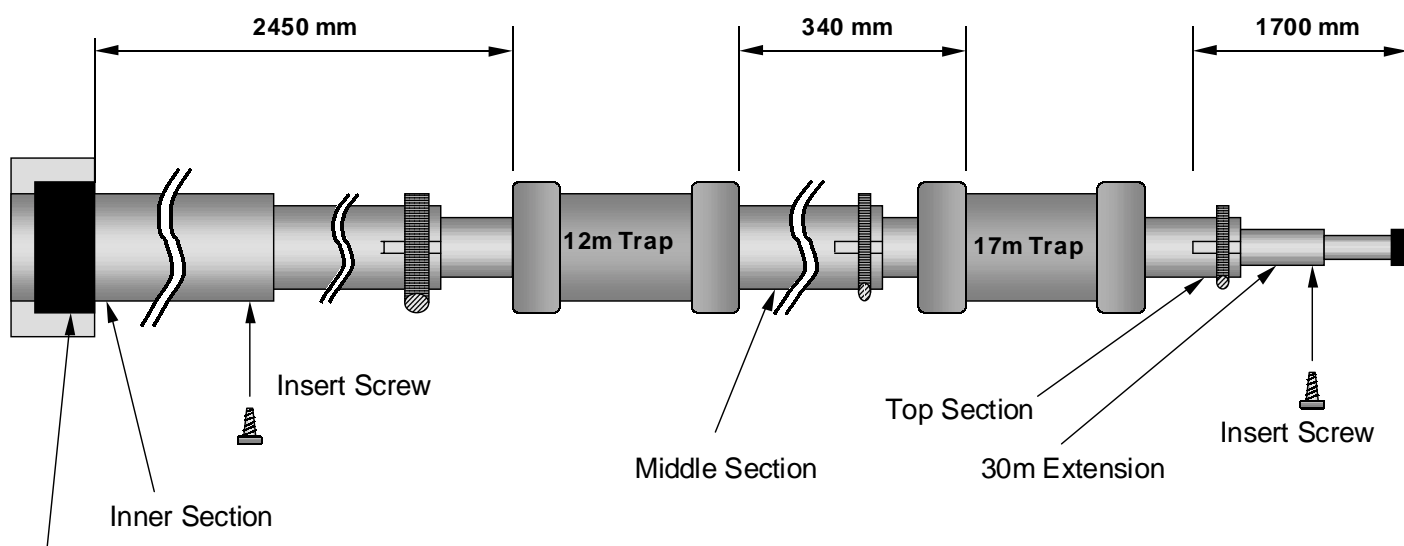

Figure 2 – Dimensions for Tuning
Use a tape measure to adjust the lengths of the telescoping tubing to the distances shown in Figure 2 – Dimensions for Tuning. Tighten the hose clamps for all three sections. Re-check the dimensions. Note that the dimensions stated in this document are for an installation height of 10m or greater. If the antenna is mounted less than ten (10)m high then the dimensions shown will have to be reduced. This antenna is not designed to be installed at heights less than 7.5m.
Since the WARC bands are relatively narrow the TZ-RD-3w should not normally require adjustment from the dimensions given in Figure 2 – Dimensions for Tuning. Should your installation present an unacceptable VSWR and the lowest VSWR dip point is not within the WARC bands. The following procedure should be followed.